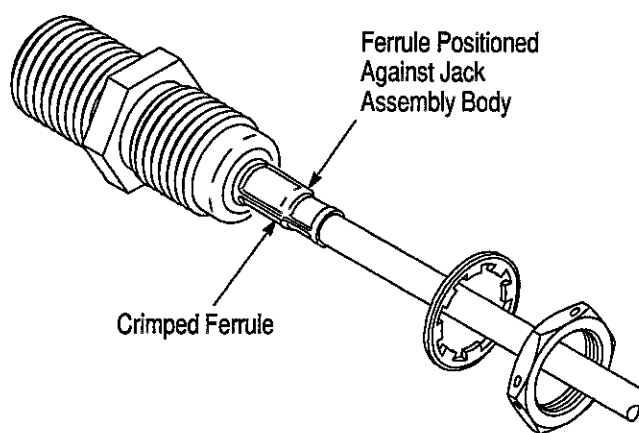

Figure 5
4. Insert the crimped contact into the rear of the jack assembly body. Make sure braid is over the crimp section of the body for RG-179/U and RD-179 cable only. There is no braid on conformable cable. See Figure 5, Detail A.
5. Slide the ferrule over cable braid and bottom against the jack assembly body. Crimp the ferrule using the recommended frame assembly fitted with appropriate die assembly. See Figure 5, Detail B.